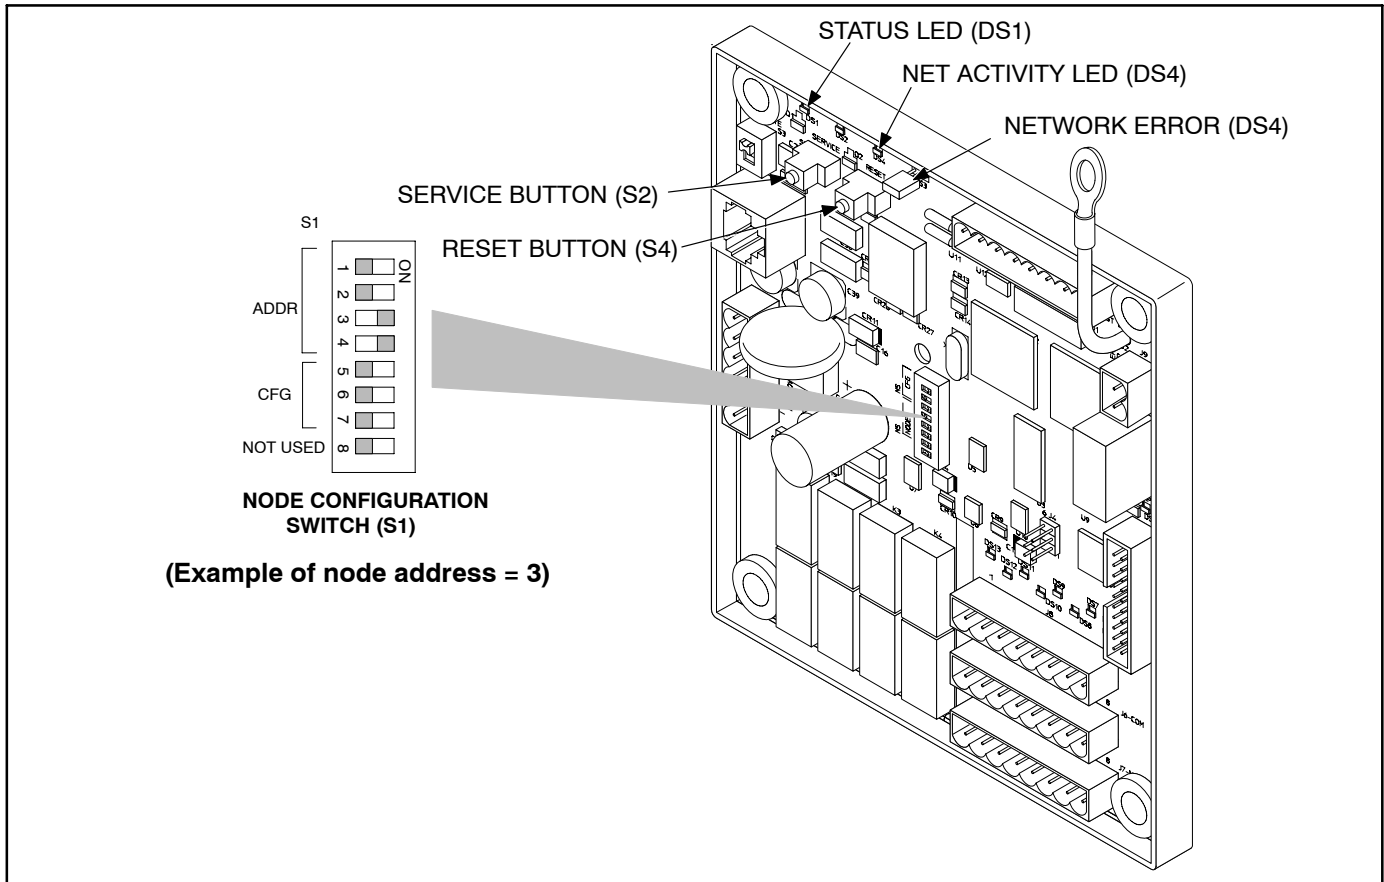

FIGURE 7. DIM SWITCHES
0011=0+0+2+1=3 decimal). See Table 1 and Figure 7.
Be sure to assign each node in the network a unique address. The *Node Address* can be verified by counting the number of pulses of the "STATUS" LED (DS1). See Figure 7.
5. Press and hold the *Service* button (S2) (see Figure 7) until the *Network Status* LED (DS1) begins flashing (amber).
To verify the genset has installed itself properly and is bound to the ATS, disconnect the J3 data cable from the engine interface board. The “Network Error” LED (DS3) (see Figure 7) should turn on (red) within 10 seconds. This indicates communications have failed and that the device was properly bound.